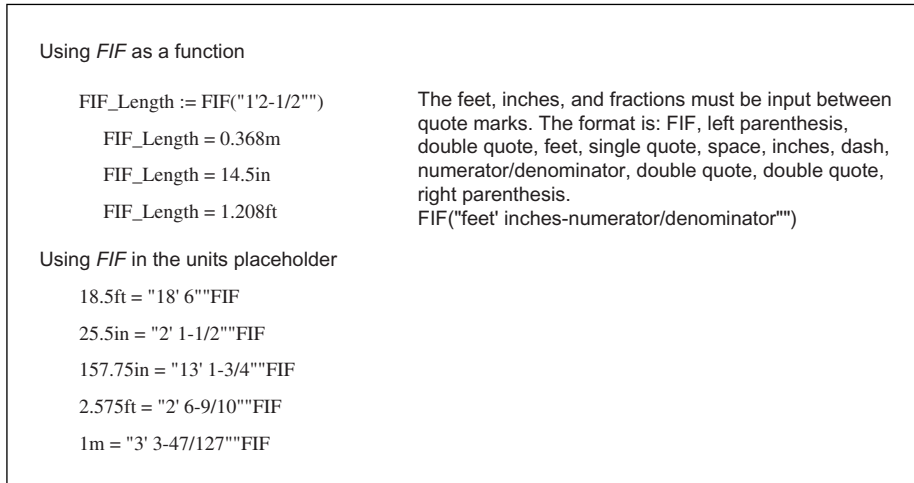

Figure 4.36 Feet inch fraction (*FIF*)
The *FIF* function is very similar to the *hhmmss* function. It uses a string as the argument for the function, and when used in the units placeholder it also displays a string. The format uses a string with a single quote for feet and double quote for inches and fractions of inches. A dimension of 2 feet 3½ inches would be input as a text string like this: *FIF*("2' 3-1/2"). Notice the (2) double quotes at the end. One to indicate inches, the other to close the text string. The keystrokes are: **FIF, left parenthesis, double quote, feet, single quote, space, inches, dash, numerator/denominator, double quote, double quote, right parenthesis. FIF ("feet' inches-numerator/denominator").** Figure 4.36 provides examples of its use.